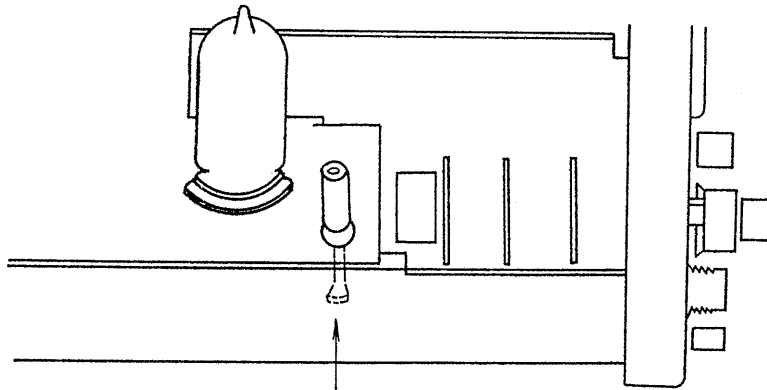

Fig.20
- 3) The input capacity must be adjusted to 30 pF with the CV 206 semi-fixed condenser shown in Fig. 20.